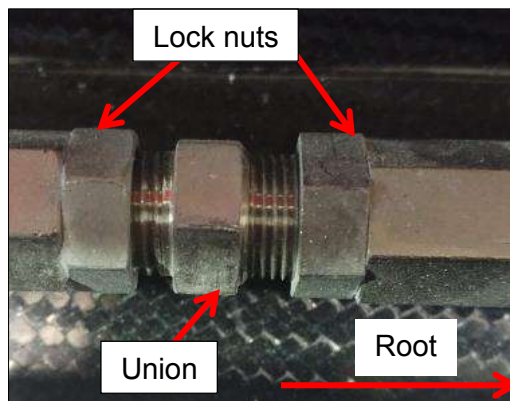

Figure 27-20: Adjustment insert
5. Adjust the length of DRW4AB (Figure 27-19, Item 15) if the lifting arms are not synchronized. The length is adjusted by turning the union (Figure 27-20).